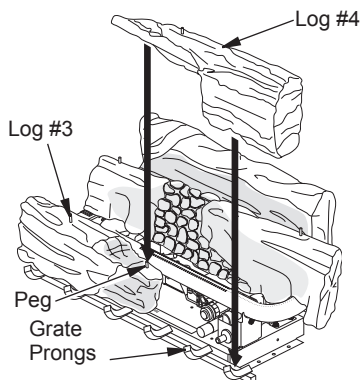

Figure 23 - Placement of Front Logs (Log #3 and Log #4)
3. Place left front log (log #3) on grate prongs as shown in Figure 23.
- Place right front log (log #4) on peg of log #3 and grate prongs as shown in Figure 23, page 16.